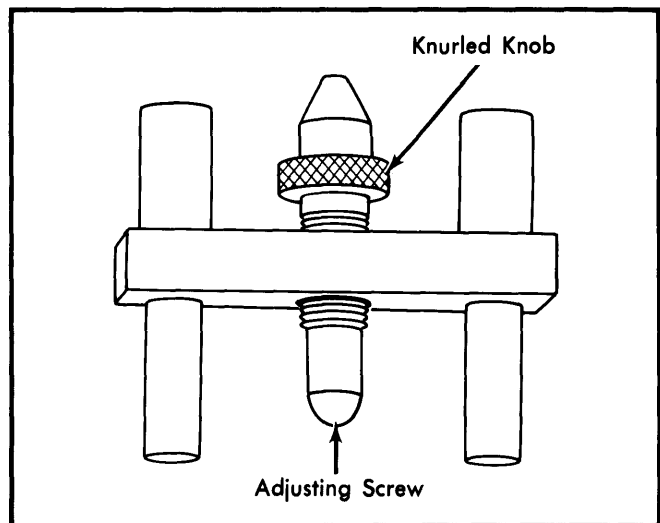

Fig. 7 Push Rod Adjustment Gauge
2) Before installing master cylinder, check master cylinder-to-push rod clearance. Place rod bolt adjustment gauge (Fig. 7) on master cylinder open end with knurled knob up.